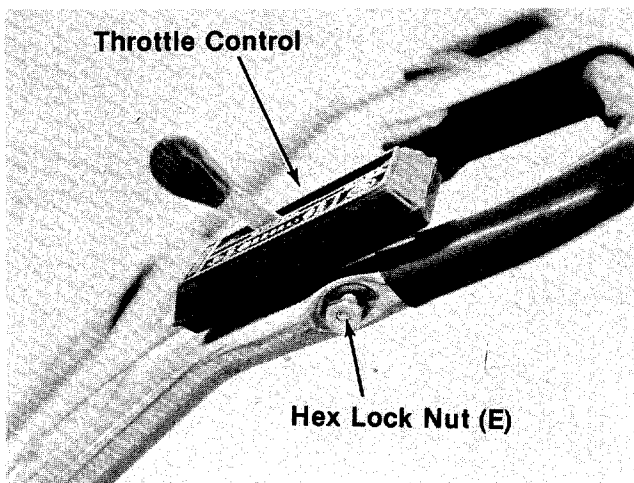

FIGURE 4.
- ← 5. Place the throttle control in position on left side of upper handle. Secure with hex bolt (D) and lock nut (E). See figure 4.